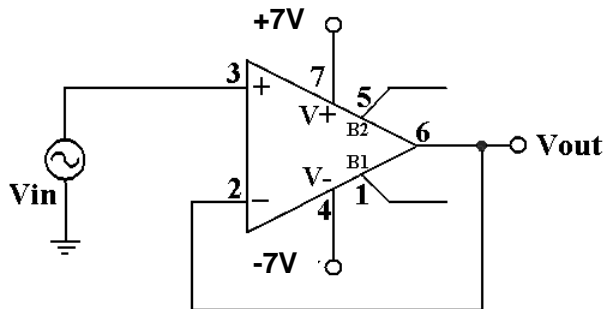

Fig. 3. Voltage Follower Configuration
6. What's the voltage DC gain of the circuit shown in Fig. 3? Verify your answer using PSpice.